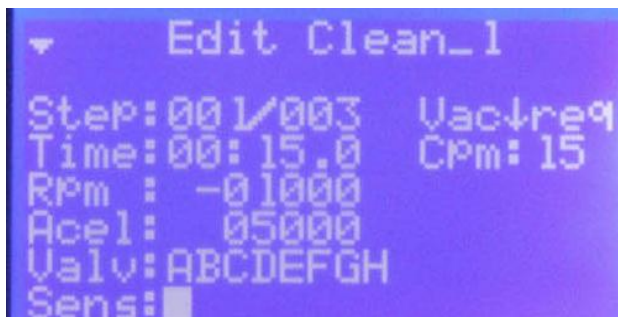

Figure 3-27
- **SPIN SPEED:** The HPD2 spin speed is programmable with both positive and negative numbers. Positive numbers $>+00001$ will cause the motor to rotate counter clockwise and negative values <-00001 will cause clockwise rotation. Negative values can be entered by highlighting the + or – symbol in the edit mode and pressing the up or down arrow key. See figure 3-27